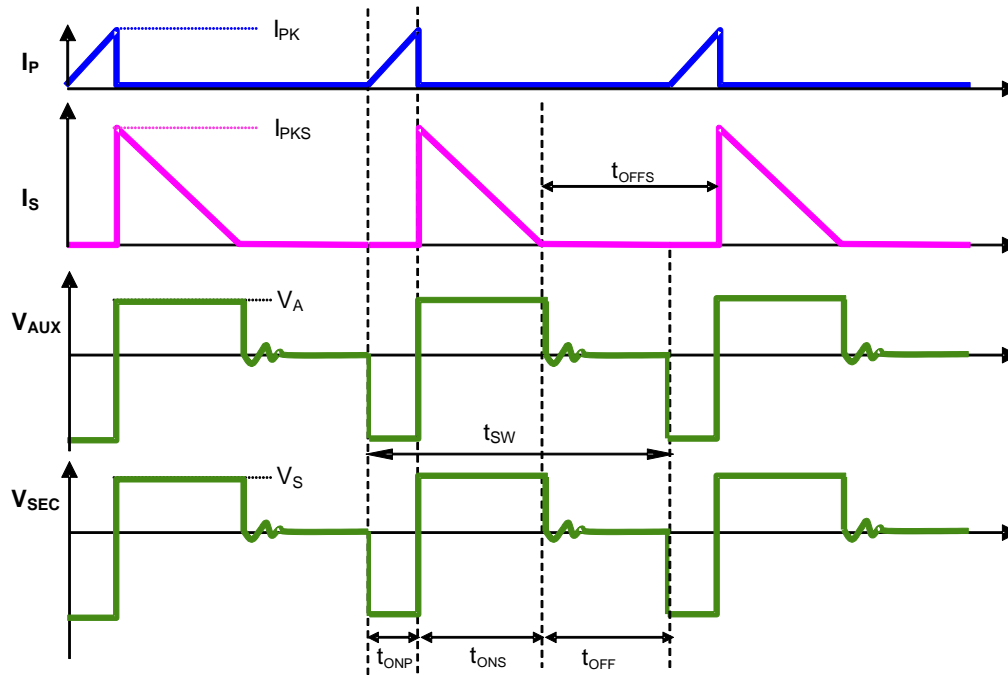

Figure 2. The Operation Waveform of Flyback PSR System
Figure 2 shows the typical waveforms which demonstrate the basic operating principle of AP3790 application. And the parameters are defined as following.
As illustrated in Figure 2, when the current $i_p(t)$ rises up to I_{PK} , the switch Q1 turns off. The constant peak current is given by:
The AP3790 can work in constant-current (CC) mode. Figure 2 shows the secondary current waveforms.